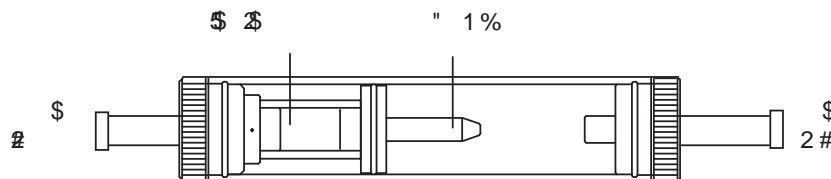

Figure 6-3. Water Trap/Filter Assembly
1. Pull off the end-cap from the Inlet End of the Water Trap / Filter Assembly (Figure 6-3).
1. Pull off the end-cap from the Outlet End of the Water Trap / Filter Assembly (Figure 6-3).